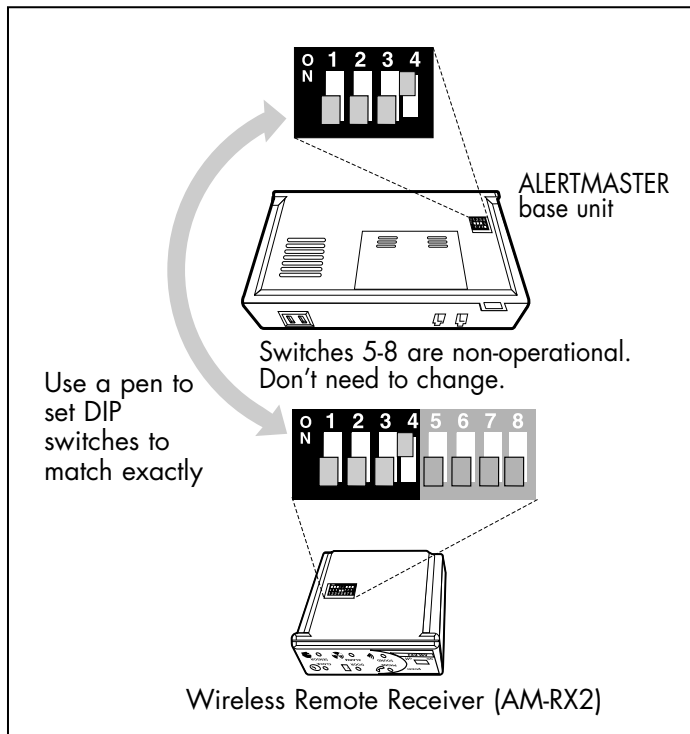

Fig. 3
3. Use a pen to change the DIP switch position on both units. For example, change the position of switch #4 on both units. All settings need to be identical for the system to work. See Fig. 3.